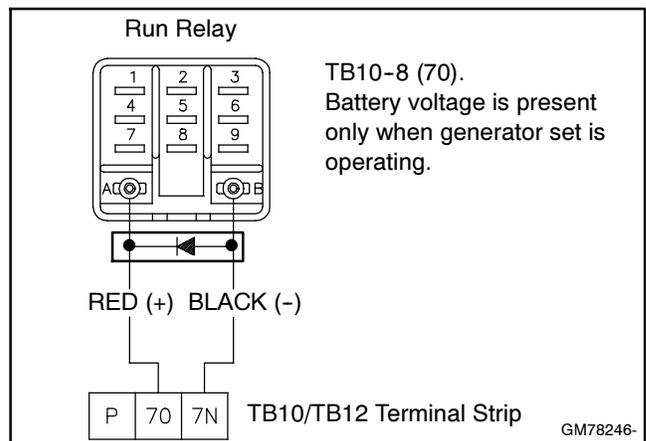

Figure 6 Electrical Connections for Run Relay Kit
- 4.3 Connect the red wire of the run relay to terminal 70 (+) and the black lead to terminal 7N (-) of terminal block TB10 or TB12. See Figure 6.